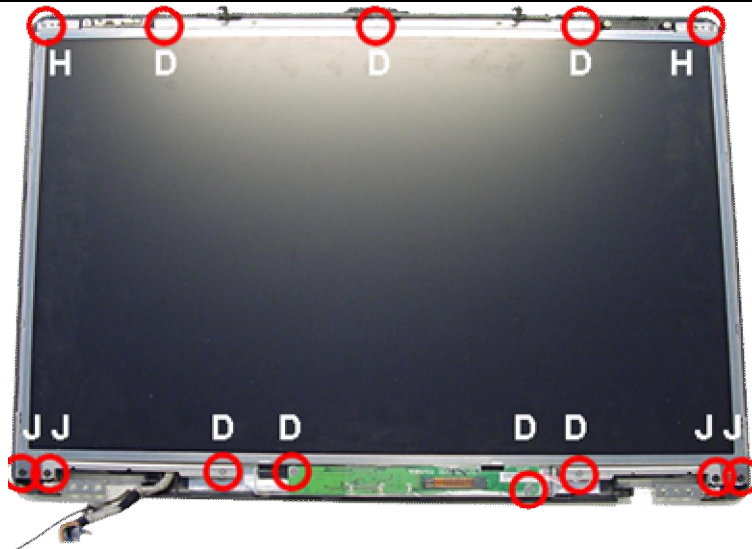

Fig. 13 LCD display panel.
5. Remove the screws (2xH) at the top (see Fig. 13).